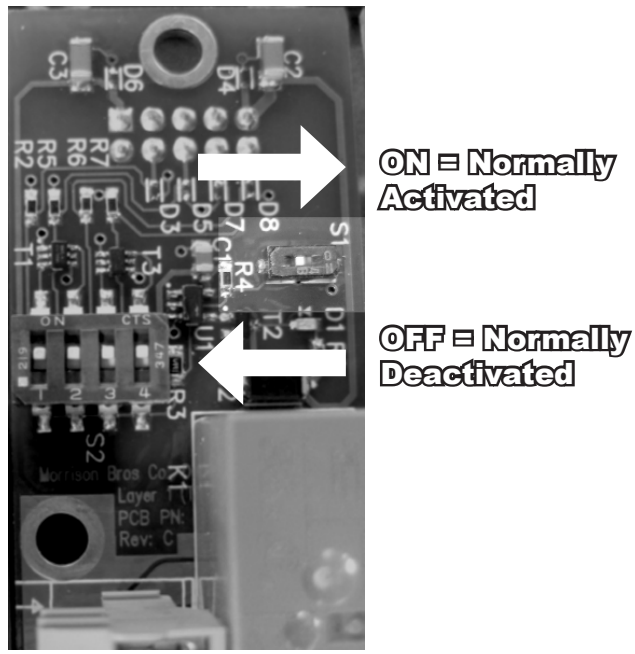

Figure 9 - Output Module Mode Configuration
- i. Locate the single position DIP switch, S1, on the Output Module to be configured (see Figure 9).